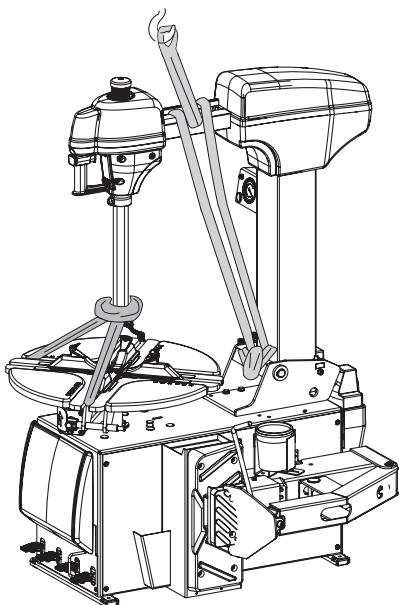

Fig. 9: Attaching straps
7. Re-attach the plastic cover as shown in Fig. 9.